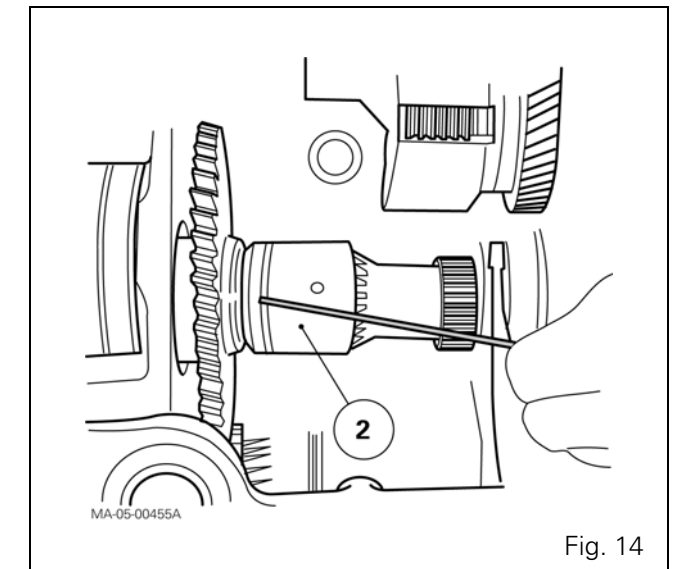

Fig. 14
23. Couple the sleeve/connecting shaft/coupler assembly inside the housing. Place it in the fork, turning the machined groove on the sleeve (2) towards the rear of the tractor (Fig. 14).